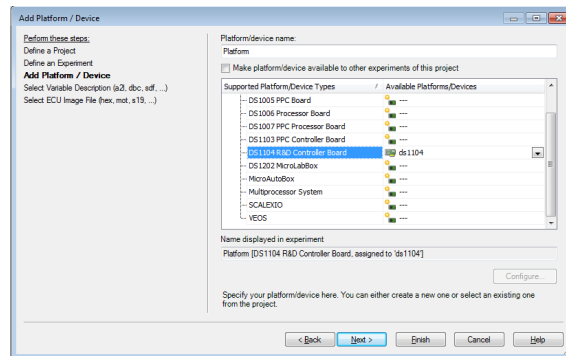

Figure 43: Add plataforma / Device
- After pressing 'Next', the user must select the controller board which is being used which, in this case, is the DS1104, as seen in figure 43.